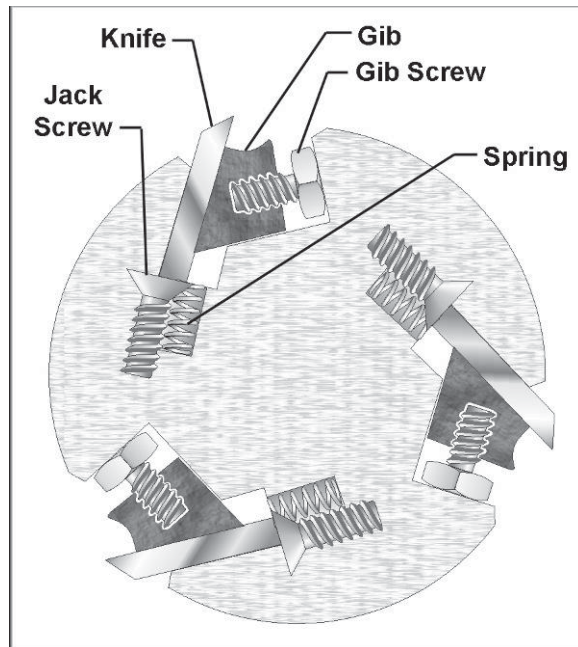

Figure 31 (straight cutterhead)
14. Slightly loosen the five gib screws (see Figure 31) with an 8mm wrench. (NOTE: The springs below the knife will cause the knife to rise.)